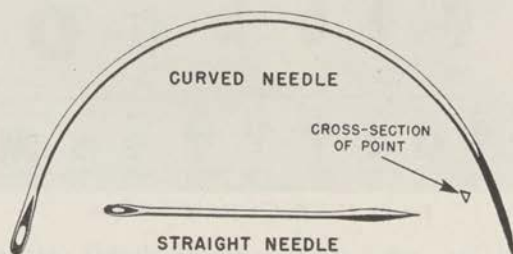

FIGURE 79.—Needles.
18. Hand tools.—*a. Needles* (fig. 79).—Two kinds of needles are generally used by the upholsterer: curved needles about 3 inches long